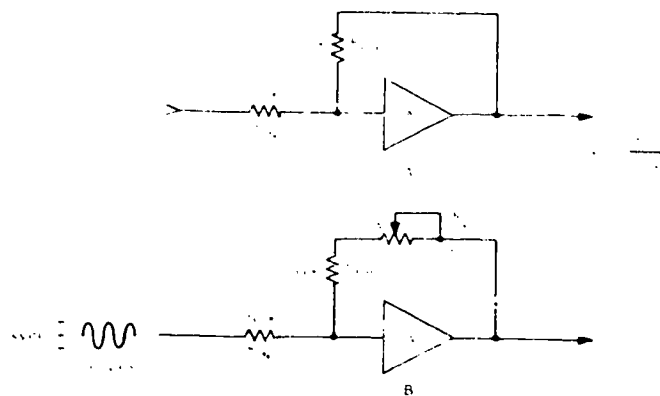

Figure 2-34. Operational amplifier.
Operational amplifiers. An operational amplifier is a circuit consisting of three basic parts: (1) an input resistance, (2) a high-gain amplifier, and (3) a feedback resistance. Refer here to figure 2-34,A, and note that R_{in} is the input resistance and has an assigned value of 100K.
For example, a 5-volt signal into R_{in} results in a 5-volt signal output from the amplifier. Now look at figure 2-34,B. By the insertion of 10K pot, the circuit is made to provide a variable amplitude output. For example, apply a 5-volt 60-Hz signal into the amplifier to see what effect the pot will have.